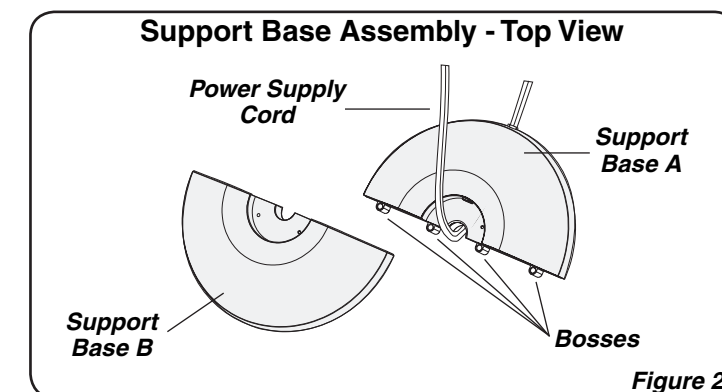

Figure 2
4. Assemble the Bases by interlocking the **Bosses** on **Support Base A** into the **Boss Holes** on **Support Base B**. Thread the **Power Supply Cord** through the large hole in the center of the Support Base Assembly. (**Figure 2**)